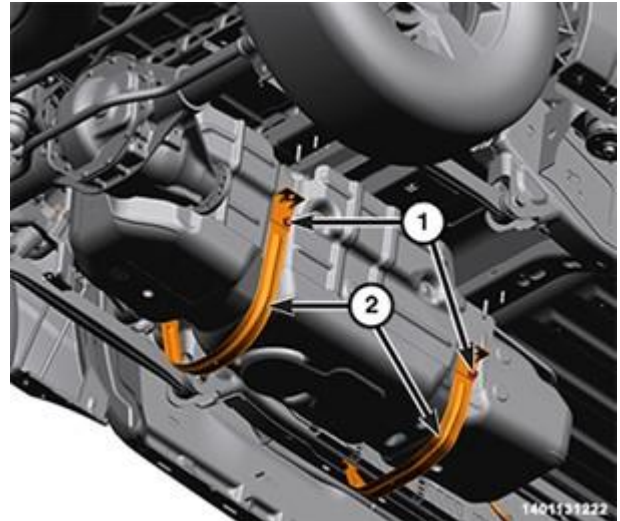

Figure 87 – Low Pressure Supply Lines
- 169. Install the fuel tank straps (2) and tighten the nuts (1) to 54 N·m (40 ft. lbs.) (Figure 87).